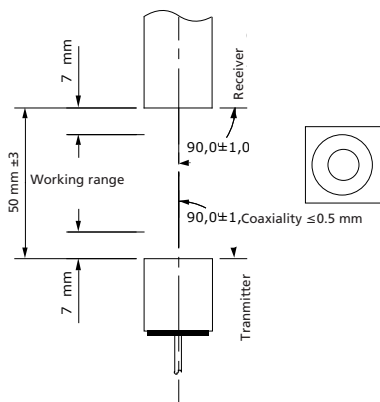

Fig. 5: Installation and working range
- Install the transmitter and receiver facing each other 50 mm ± 3 mm apart (see fig. 5). Installation of the dbk is not dependent on the position.